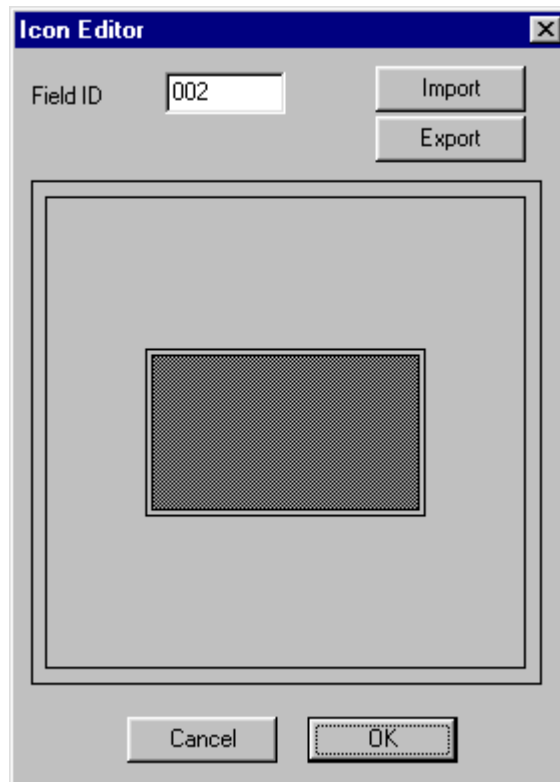

Figure 13.8 – Icon Editor
9. Click the **Add** button to display the Icon Editor (Fig 13.8).